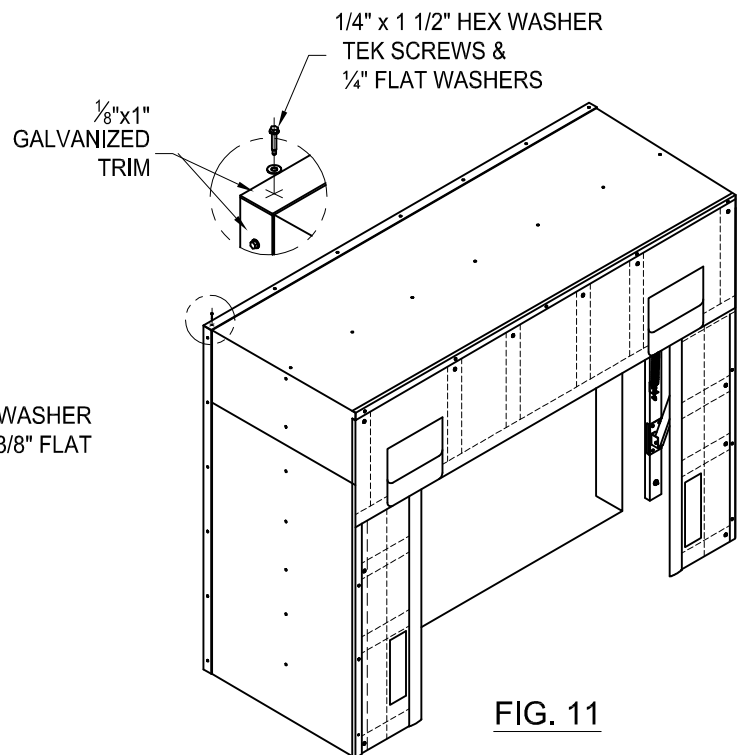

FIG. 11
- * Fasten the 1/8"x1" galvanized trim flush with the outside frame of the unit and building wall, using 1/4" x 1 1/2" hex washer tek screws & 1/4" flat washers (fig. 11).